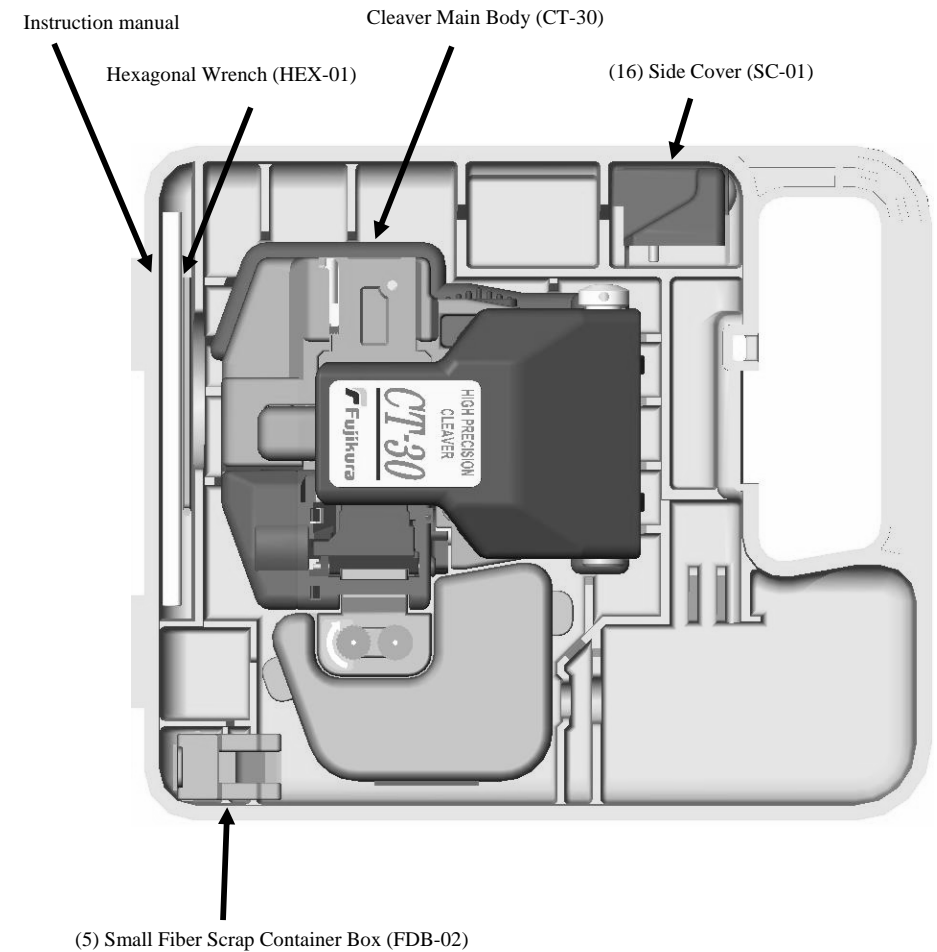

Fig.5
See Fig.5 for top view in the carrying case of the main body with the large fiber scrap container box (6).